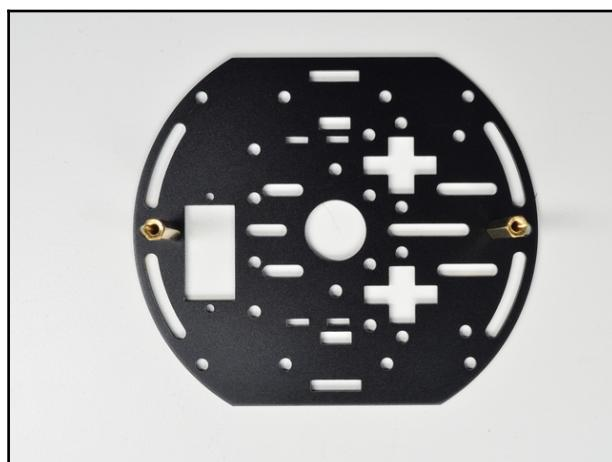

Figure 2.7: Attaching the brass standoffs. Image courtesy of Adafruit Industries (<https://www.adafruit.com>); Image credits—John O'Brien-Carelli
2. Attach two brass standoffs onto the chassis layer (*Figure 2.7*):